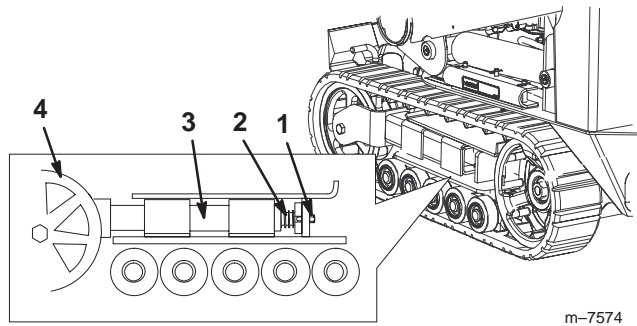

Figure 46
- Remove the locking bolt and nut (Fig. 46).
- Align the closest notch in the tension screw to the locking bolt hole and secure the screw with the locking bolt and nut (Fig. 46).
- Using a 1/2 inch drive socket, release the drive tension by turning the tensioning screw clockwise (Fig. 46 and 47).